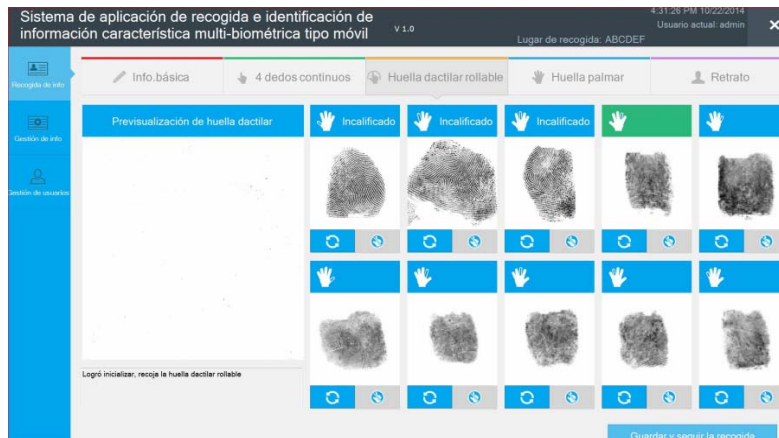

Figure5.3.6.1
6. The effect of collected rolling finger-print as shown in figure (as shown in figure5.3.6.1).